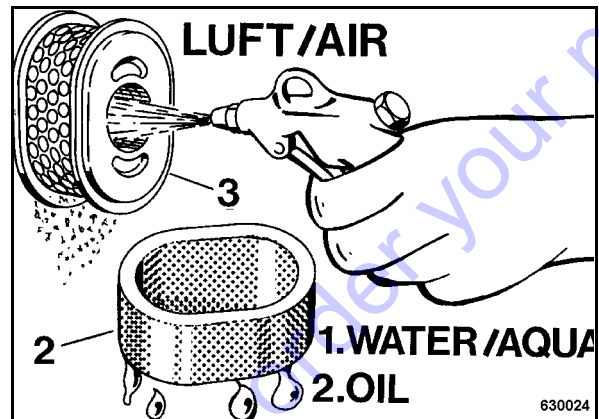

Fig. 41
- Blow the paper insert 3 (Fig. 41) carefully out from inside to outside with dry, clean compressed air (do not exceed 2 bar).
- Clean the foam insert (2) in warm soapy water, rinse it and let it dry thoroughly.
- Pull the foam rubber element (2) over the paper element (3).